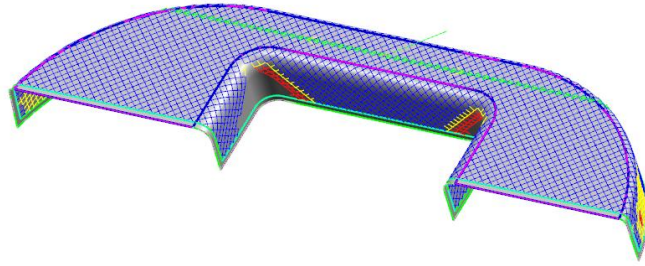

Figure 4–63
- Switch to the NX window to review the producibility results as shown in Figure 4–63.